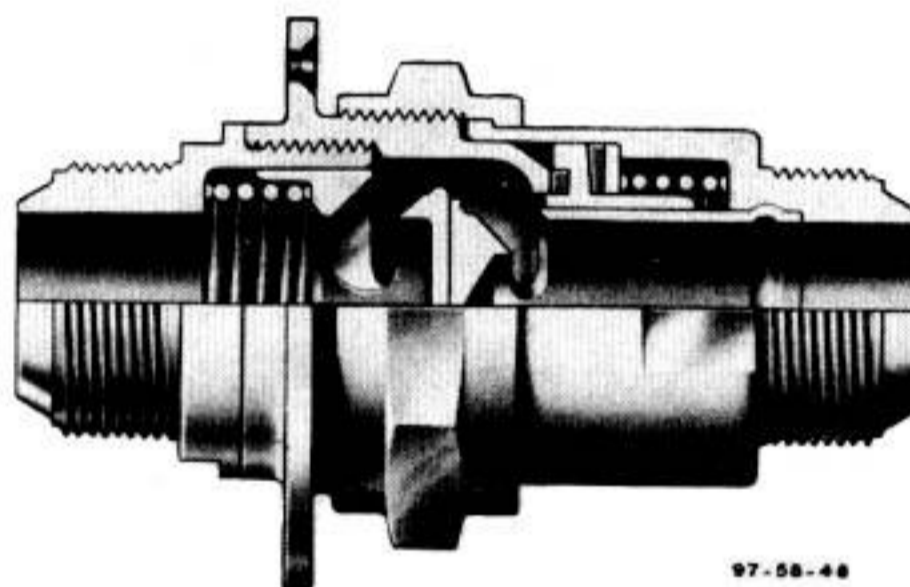

Figure 338—Hydraulic Disconnect Coupling (Connected)
(4) HYDRAULIC SYSTEM DISCONNECT COUPLINGS. (See figures 338 and 339.)—Self-sealing couplings at the firewall make it possible to disconnect and reconnect the hydraulic suction and pressure lines serving the engine-driven pump without losing fluid or allowing air into the system. The disconnect couplings are used in connection with a ground test stand, and for removing the complete engine section from the fuselage. The coupling consists of two halves connected by a nut. Unscrewing the nut automatically closes the valves as the action of springs forces them to seat against the apertures of the coupling halves. Tightening the nut forces the halves together to overcome the tension of springs in such a manner that when the nut is drawn completely tight, an internal aperture equaling the cross section of the connecting lines is obtained.